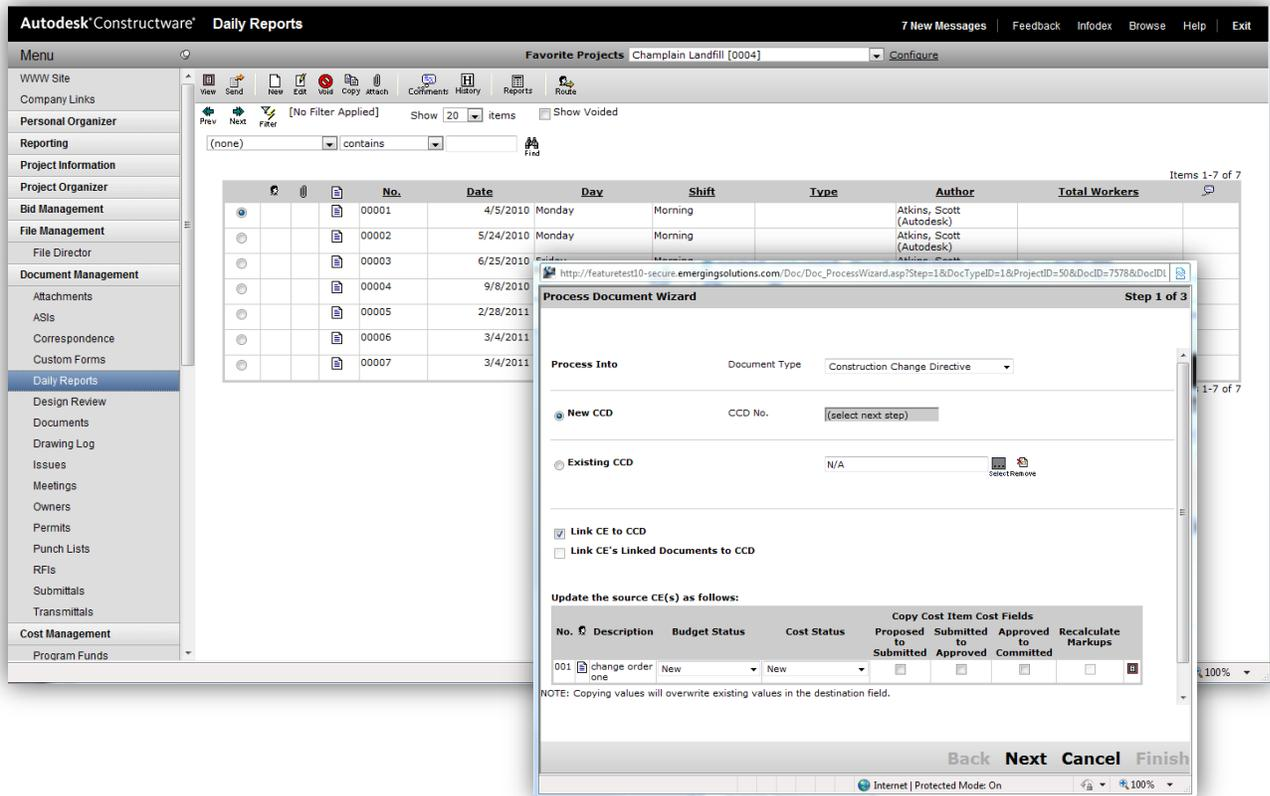

Figure 3. Constructware User Interface and Wizard Interface
- **Menu:** The folder-based navigation menu has been replaced with a menu that feels more like a desktop application. The top level navigation is in bold text, and the modules themselves are indented with standard text. The selected module is indicated with the blue background as shown in Figure 3.